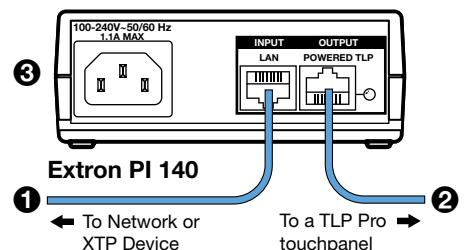

Figure 4. Connecting the Power Injector
The power injector must be purchased separately. Figure 4 shows the Extron PI 140. Your power injector may look different.
- Connect a straight-through Ethernet cable from the power injector to a switch or router (see figure 4, **1**). This cable carries network information from the switch or router to the power supply input.